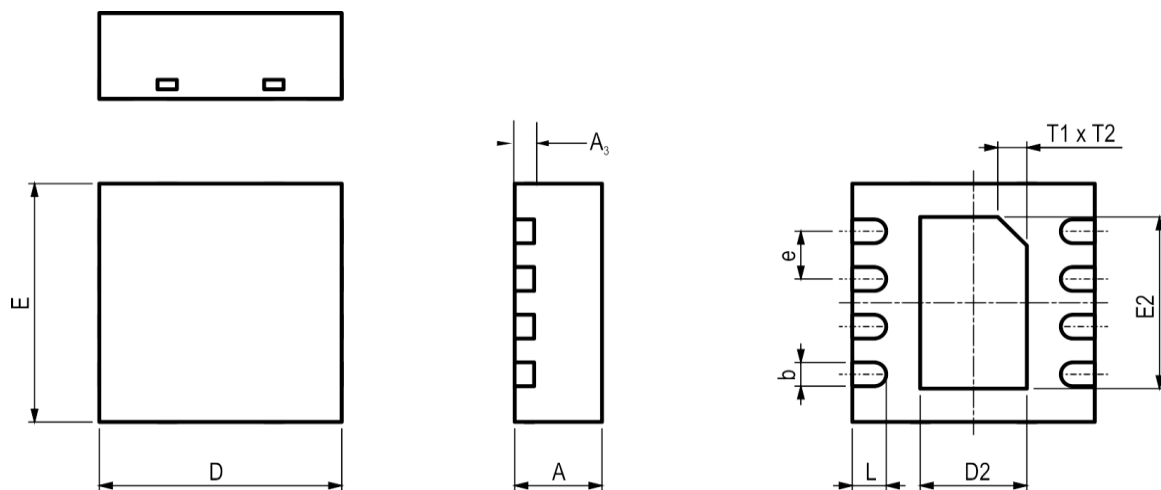

Figure 5. Dimensional drawing of STS32/33-DIS sensor package
All STS32/33-DIS sensors are laser marked for easy identification and traceability. The marking on the sensor top side consists of a pin-1 indicator and two lines of text. The top line carries the product name. The bottom line consists of 6 letters. The first two digits XY (=DI) describe the output mode. The third letter (A) represents the manufacturing year (4 = 2014, 5 = 2015, etc). The last three digits (BCD) represent an alphanumeric tracking code. That code can be decoded by Sensirion only and allows for tracking on batch level through production, calibration, and testing – and will be provided upon justified request. If viewed from below pin 1 is indicated by triangular shaped cut in the otherwise rectangular die pad. The dimensions of the triangular cut are shown in **Figure 5**. Dimensional drawing of STS32/33-DIS sensor package through the labels T1 & T2.